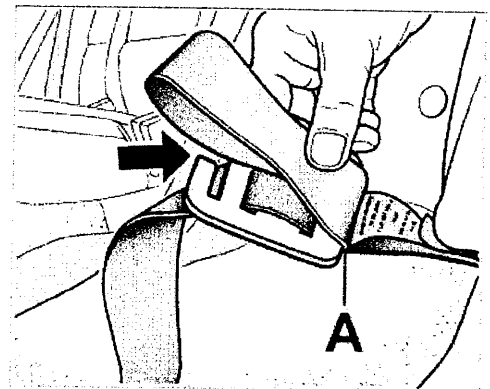

Figure 9
12.4 Position the belt strap holder as far down on the seat belt until it touches the flag of the data sticker (Figure 9, Item A).